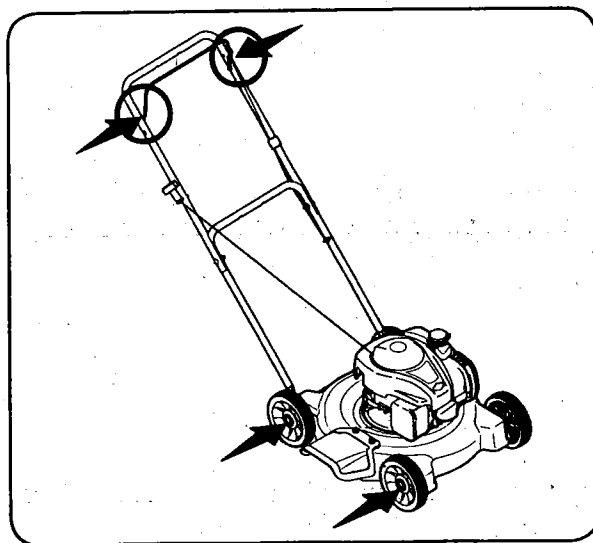

Figure 6-1
1. Lubricate pivot points on the blade control at least once a season with light oil. This control must operate freely in both directions. See Figure 6-1.
2. Lubricate the wheels at least once a season with light oil (or motor oil). If wheels are removed for any reason, lubricate surface of the axle bolt and inner surface of the wheel with light oil. See Figure 6-1.